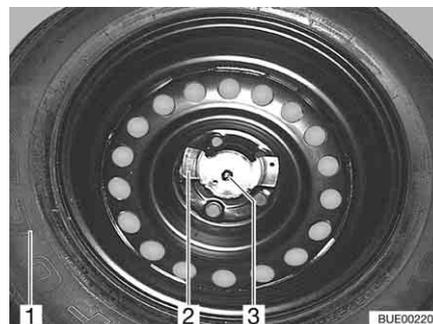

Fig. 238 Spare wheel fixture
- Unscrew both nuts (Fig. 238,2 and 3).
- Remove the spare wheel (Fig. 238,1) from the spare wheel support.